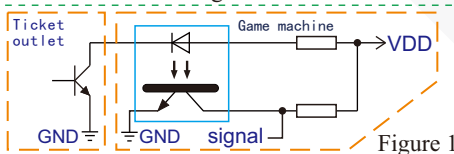

Figure 1
1. The output signal circuit of the ticket outlet is triode collector or MOS drain open circuit output mode. When it is used, users are advised to use optocouplers to receive signals when designing the interface circuit (see Figure 1).